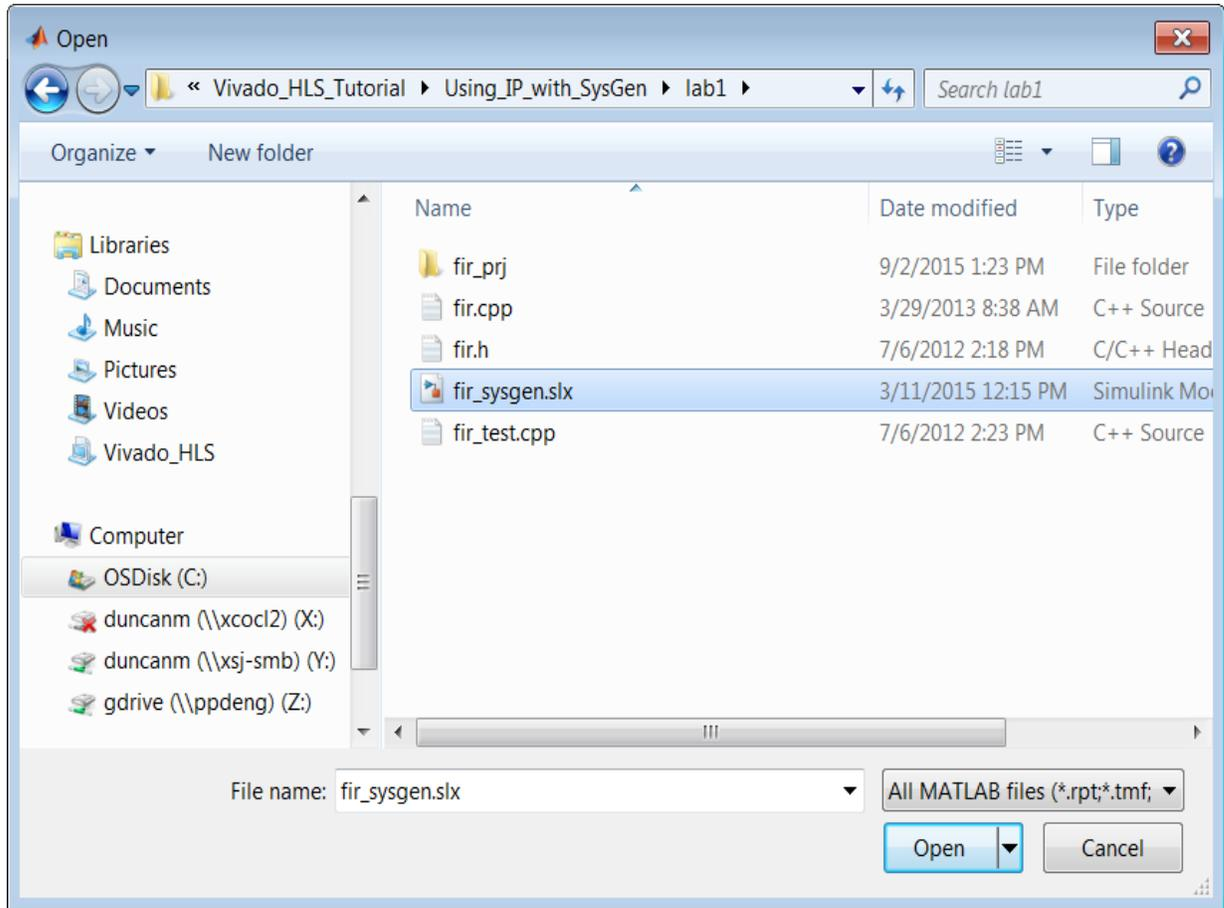

Figure 11-4: Select File fir\_sysgen.slx
3. Navigate to the tutorial directory `Vivado_HLS_Tutorial\Using_IP_with_SysGen\lab1` and select the file `fir_sysgen.slx`, as shown in Figure 11-4.